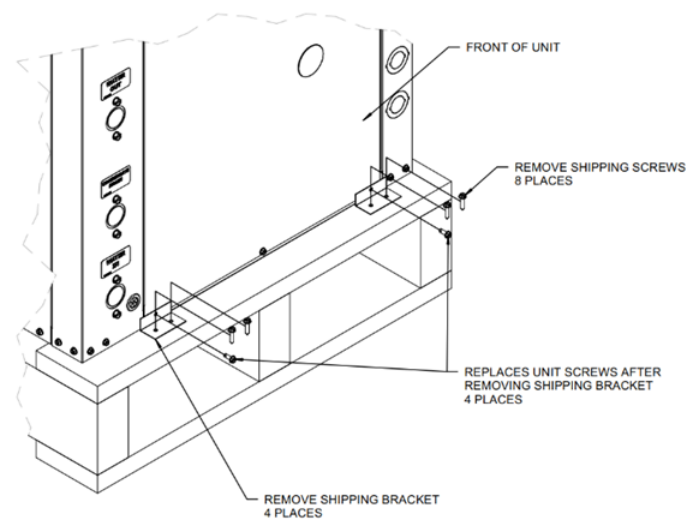

Figure 2– Standard Packaging with Brackets
9. Ensure that the shipping screws are removed from the unit. Refer to **Figure 2 – Standard Packaging with Brackets** for more information.